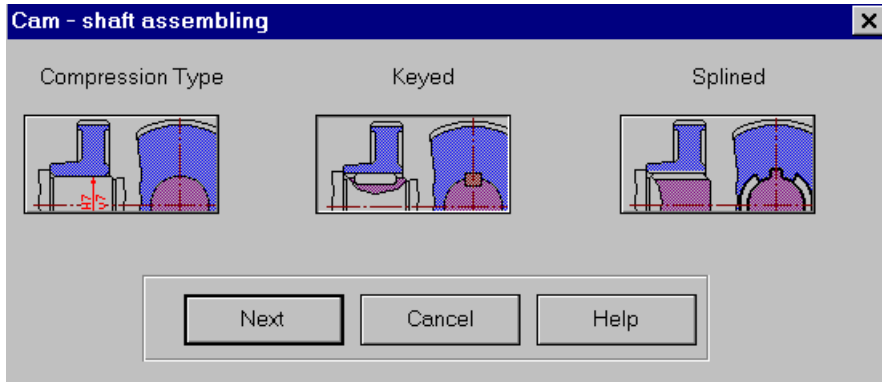

Fig. 6.14 The Cam-Shaft Joint dialog box
- The *Cam-Shaft Joint* dialog box (fig.6.14)